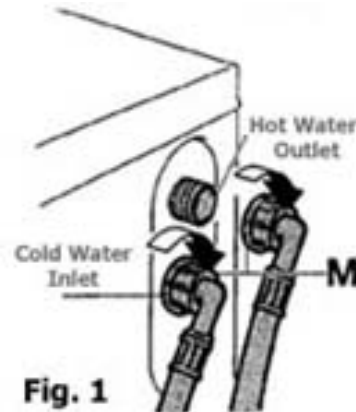

Fig. 1
1. Remove back panel screws and lift panel clear (Fig. 1).
Do not use excessive force (see M, Fig. 1).